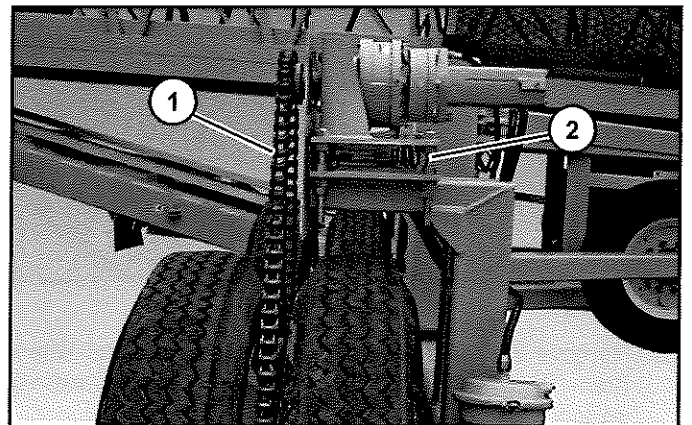

Figure 87
3. Remove the power travel chain (Item 1), relieve tension on the chain by adjusting the bolts (Item 2). Remove the full link connector and remove the chain (Figure 87).